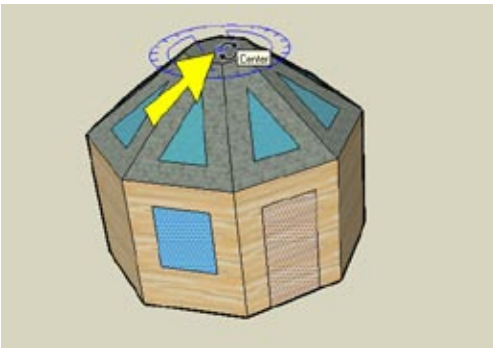

Figure 1-52
- Activate Rotate and click the same center point as before, at the center of the top octagon (Figure 1-52).